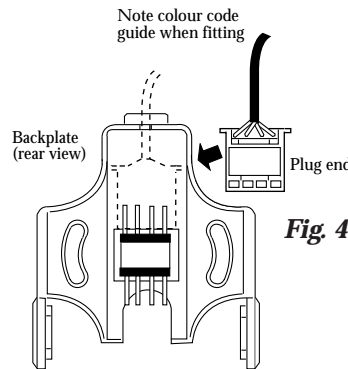

Fig 4
- Before fixing the backplate to the wall, connect the wall fixed cable end plug to the UPPER set of pins on the bracket (fig 4) NOTE: CHECK THE COLOUR CODE matching on when fitting the plug onto the pins. Arrange the cable to lay in the cable slot at the top of the backplate moulding and fix the bracket to the wall surface using the screws supplied.